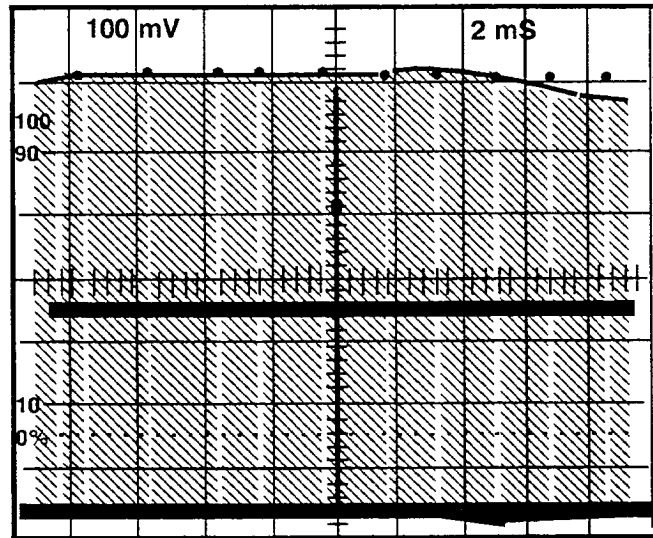

Figure 7-10: Using high range swept signal to set flatness
- i. Adjust A3C145 (PIX MON FREQ RESP) for a flat display on the test oscilloscope. See Figure 7-10.